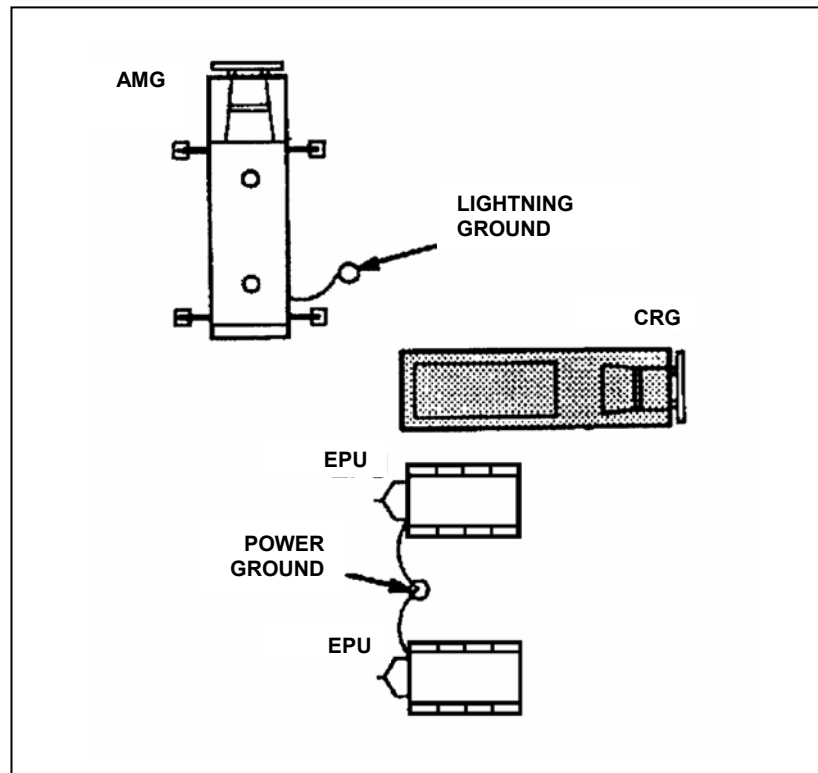

Figure 2-3. Emplacement CRG and AMG with EPUs
ILLUSTRATIONS: Figures 2-3 through 2-10.
(1) Using a diagram, Figures 2-3 through 2-10, a sand table, or a simple sketch in the dirt, show the crew members how the CRG, AMG, and EPU's should be emplaced.
(2) Tell each crew member what their duties are in the drill.
(3) Read the performance measures of the drill to the crew.
(4) Have each crew member explain their performance measures to ensure that they understand them.